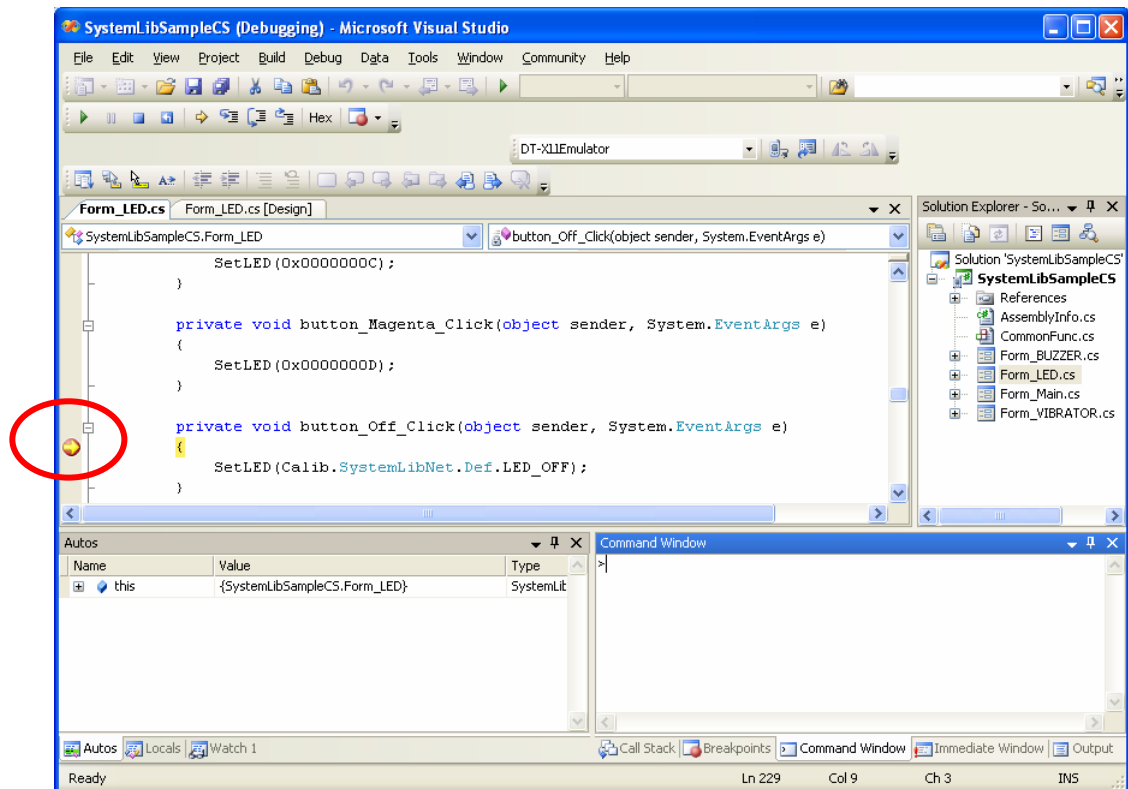

Figure 7.20
2. Similar to ordinary debugging operations with an actual DT-X11, the **Device Emulator** allows break point setting (circled in red in Figure 7.20) in the source code and step-by-step debugging.